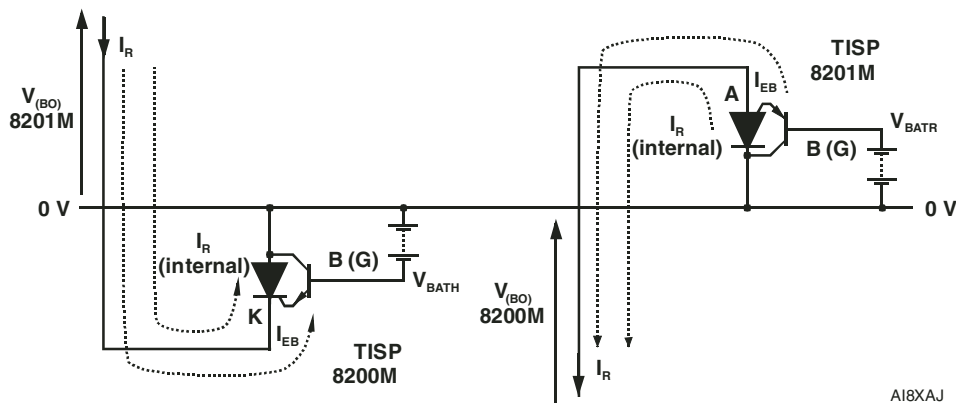

Figure 7. Reverse Current Verification
**Testing transistor EB and SCR AK reverse:** The highest reverse EB voltage and reverse AK voltage occurs during the overshoot period of the other protector. For the TISP8200M, the SCR has  $V_{BATR}$  plus the TISP8201M overshoot above  $V_{BATR}$ . The transistor EB has an additional  $V_{BATH}$  voltage applied (see Figure 7). The reverse current,  $I_R$ , flowing into the K terminal will be the sum of the transistor  $I_{EB}$  and the actual internal SCR  $I_R$ . The reverse voltage applied to the K terminal is the TISP8201M protection voltage,  $V_{(BO)}$  ( $V_{BATR}$  plus overshoot), and the G terminal has  $V_{BATH}$ . Similarly for the TISP8201M,  $I_R$  is measured with the TISP8200M  $V_{(BO)}$  applied and it is the sum of the transistor  $I_{EB}$  and the actual internal SCR  $I_R$ .  $V_{BATR}$  is applied to the G terminal.